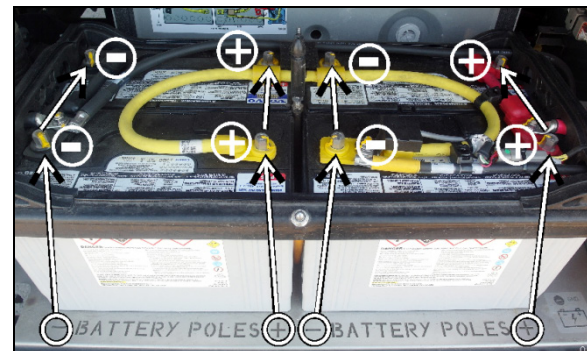

FIGURE 49: BATTERY BANK
1. To respect battery polarity in the arrangement, positive (+) and negative (-) signs are laser cut on the battery deck steel sheet. When installing the batteries, place the battery negative and positive poles according to the signs on the battery deck (Figure 49).